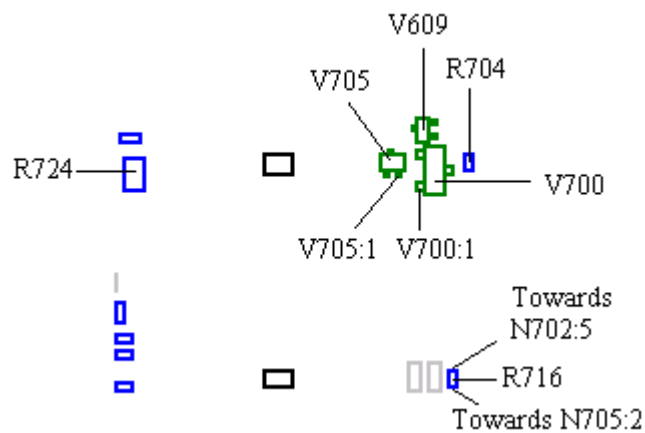

Fig. 7.5
Measure the resistance of R724 (class A, ~47 ohms, fig. 7.5).
- * If VDIG is correct, measure the resistance of R716 (class A, ~4.7 ohms, fig. 7.5).
- * If there is correct voltage, it could be foil damage between N705 pin 3 and R724 or between N705 pin 3 and V700 pin 1/V705 pin 1 (fig. 7.5, 7.4). If there is a foil damage the phone should be discarded.
Measure the resistance of R704 (class A, ~100 kohms, fig. 7.5).
Replace V700 (class A) and V609 (class A, fig. 7.5).